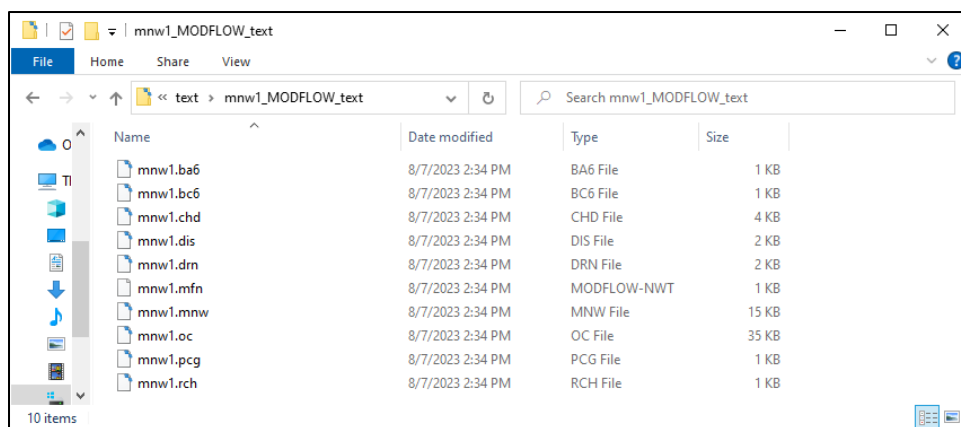

Figure 7: Native text MODFLOW files saved from GMS
3. Browse to the `text\text\mnw1_MODFLOW_text` directory to bring up the MODFLOW native text files (Figure 7).